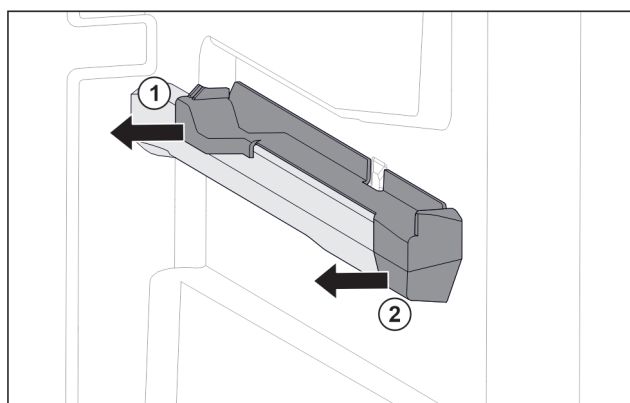

Fig. 138 Attachment on the right moulded rib
- Pull off attachment at the back sideways. Fig. 138 (1)
- Pull off attachment at the front sideways. Fig. 138 (2)